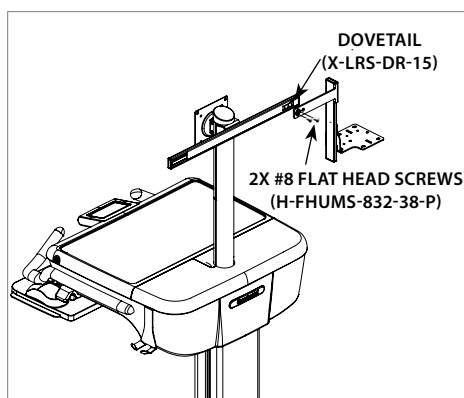
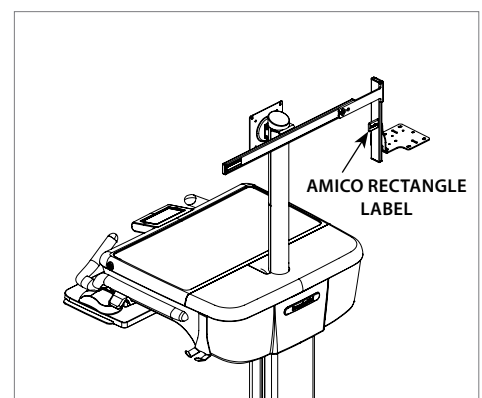

Figure 26
Figure 27
- Install the **WIRELESS BARCODE SCANNER DOCK HOLDER (HMA-BARCDHLD2-LA9)** on **DOVETAIL (X-LRS-DR-15)** with 2x #8 **FLAT HEAD SCREWS (H-FHUMS-832-38-P)** from the **END CAP HARDWARE KIT (HMA-PR-ADJ-KIT)** using #3 Philip's Head screwdriver (**Figure 26**), then put on the **AMICO RECTANGLE LABEL** (**Figure 27**).